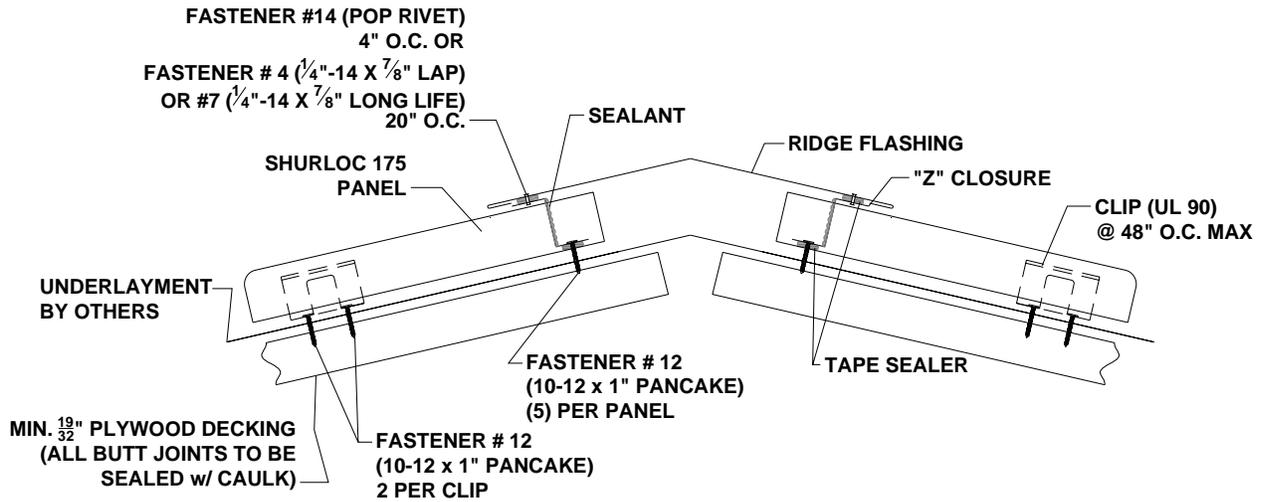

Figure 1: Fixed Ridge/Hip Detail
-52.5	Two (2) No. 10-12 x 1" Type A	48" on center
**Ridge Flashing and Hip Flashing:** The ridge flashing and the hip flashing shall be installed as shown in Figures 1 and 2.